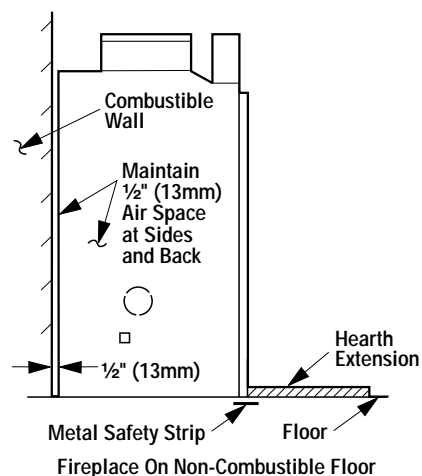

Figure 5
Step 2. Insert the provided metal safety strips, beneath the fireplace as illustrated (Figures 5, 6 and 7). The safety strips should overlap 1/2" min. for continual coverage of the floor.